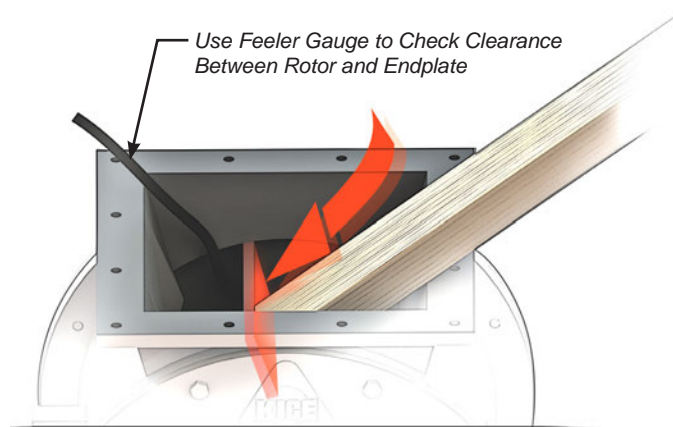

FIGURE 9
- Place a block in the airlock to prevent the rotor from turning unexpectedly (Figure 9).
- Using a feeler gauge, check the clearance between the rotor and the airlock end plates (Figure 9). **There should be a minimum of .003" to .004" standard clearance.**
3. Place a block in the airlock to prevent the rotor from turning unexpectedly (Figure 9)
7. Place a block in the airlock to prevent the rotor from turning unexpectedly (Figure 9)